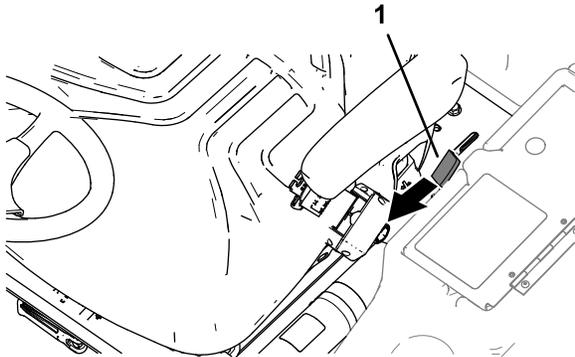

Figure 42
1. Move the platform-latch handle (Figure 42) towards the front of the machine until the latch hooks clear the locking bar.